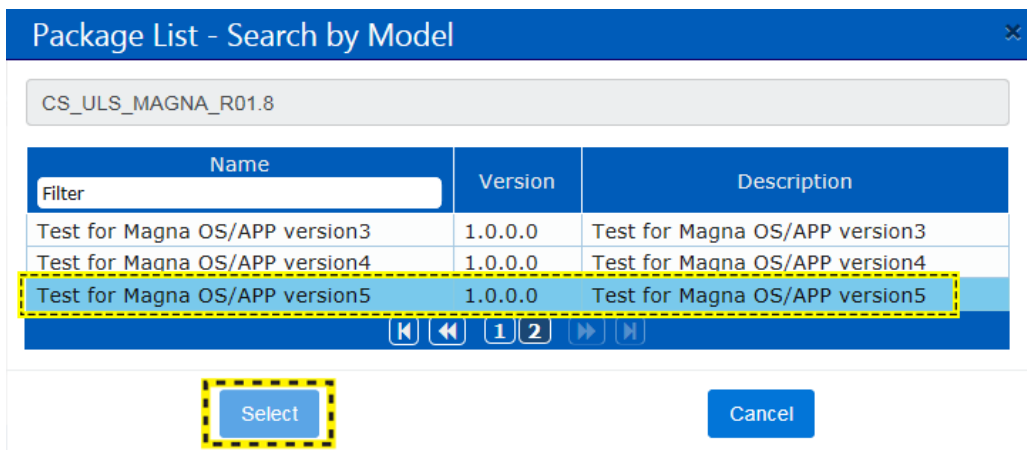

Figure 8-48. Software Package
2. Select the proper package file in the list, refer to Figure 8-48.